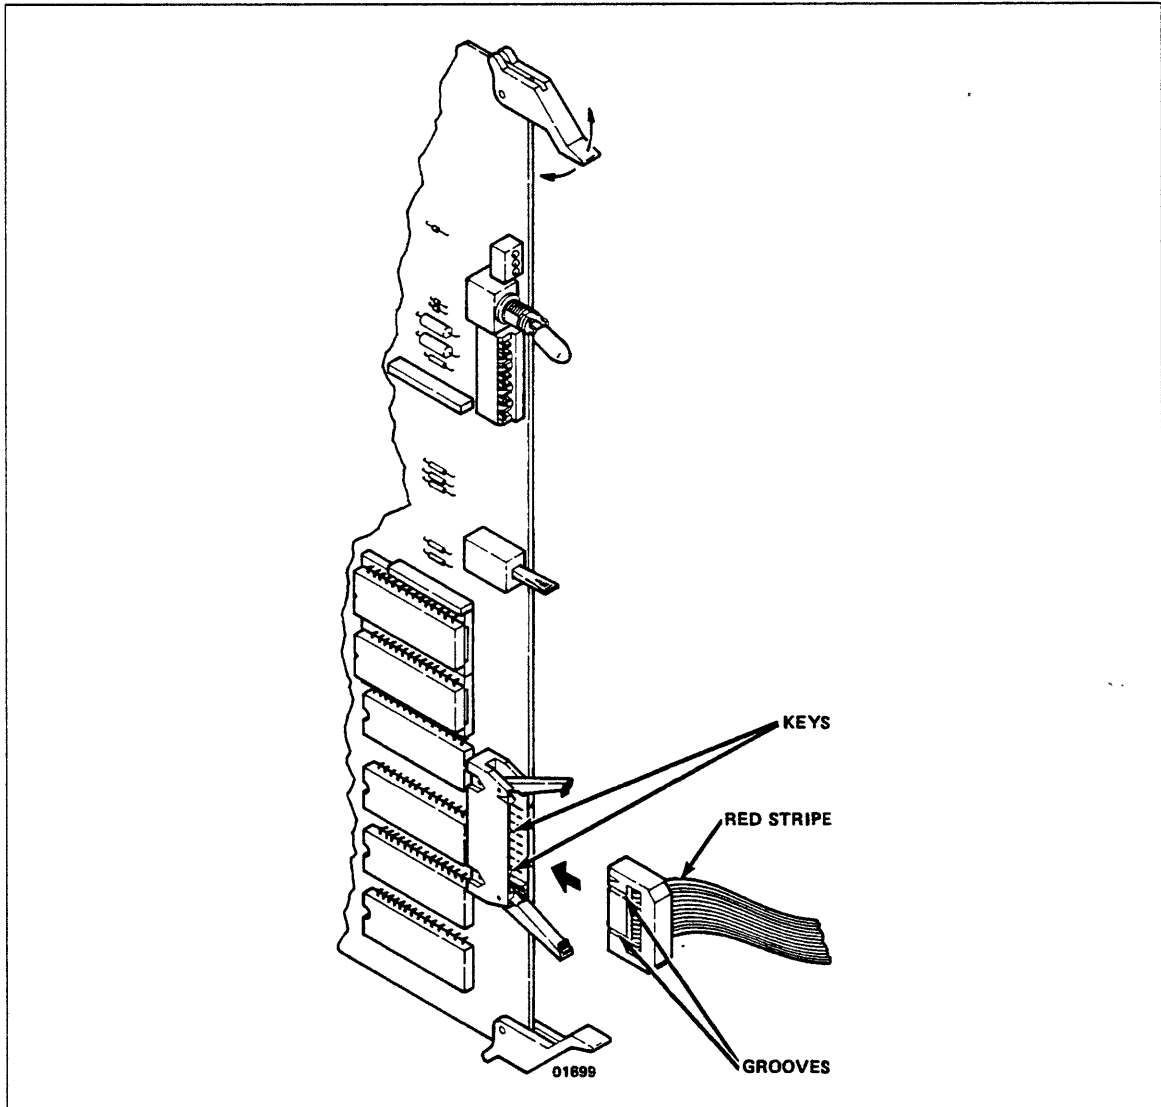

Figure 3-48. ESCI Connector Installation
9. Route ESCI cable connector behind vertical support rod and plug it into the ESCI board. Ensure that plug is properly connected by checking that keys on connector are aligned with grooves on plug, as is shown in figure 3-48. The red stripe on cable must be on top.